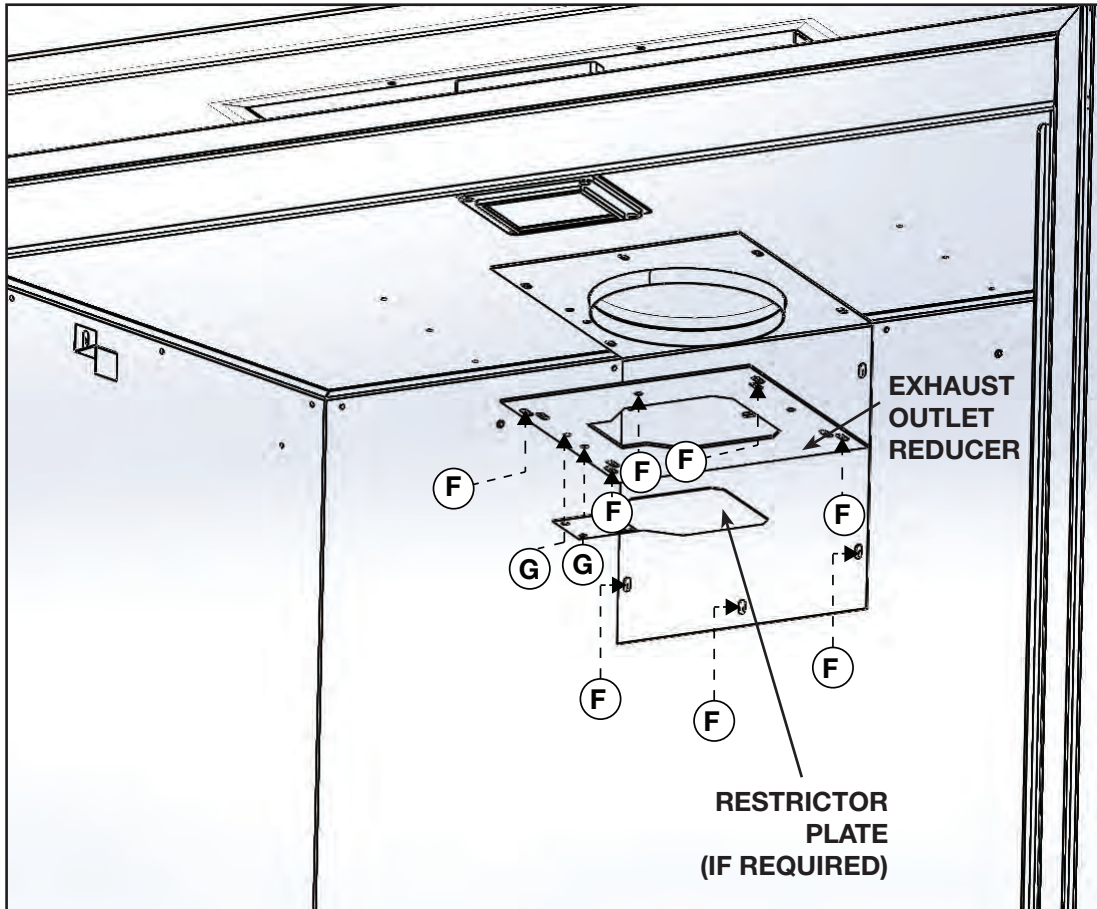

Fig. 2
- F. From inside the firebox, install the 5" (127mm) exhaust collar with gasket and the exhaust outlet reducer plate up through the top of the firebox, and secure with the the 10 hex head 3/4" black screws supplied in the manual baggie (**Fig. 2**).